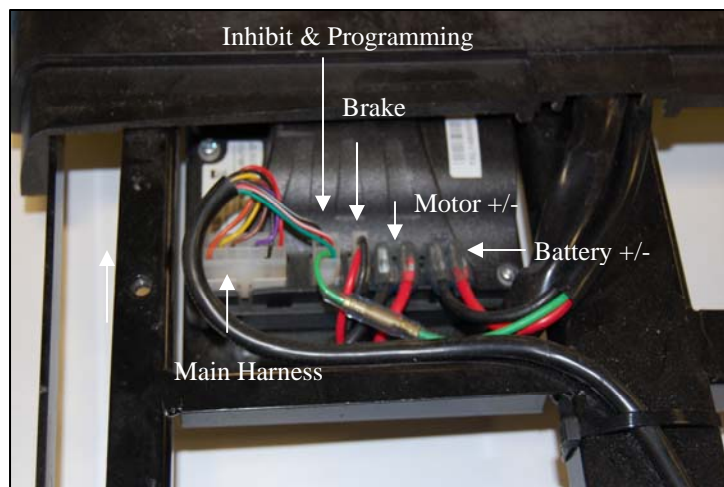

Figure 35. Controller
5. Remove the (2) gray textured floor inserts by lifting them up from each side of the floor shroud.
6. Remove the floor shroud by removing the (4) screws securing it to the frame.
7. Remove the (2) screws that attach the controller to the frame.
9. Reconnect the main, motor, brake, and battery harnesses to the new controller. See figure 35.